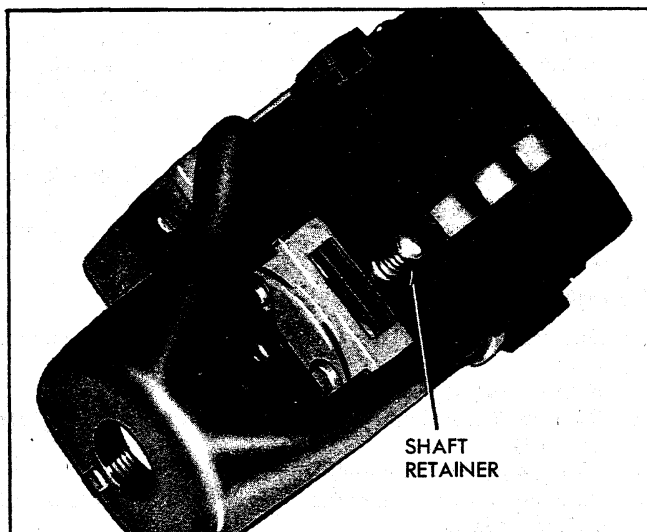

Fig. 25 - Shaft Retainer
3. Reach under instrument panel and depress the switch shaft retainer (Fig. 25) and remove knob and shaft assembly.